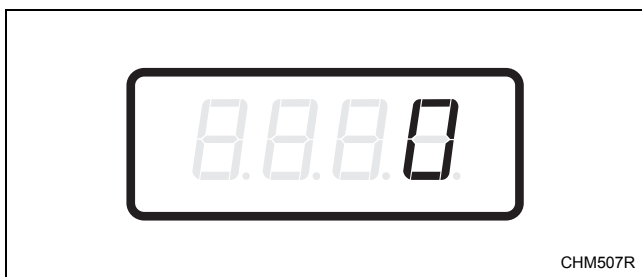

Figure 12
4. When “dEn2” appears in the display, press the START (enter) keypad. There are five digits in the Coin #2 Value. The fifth digit will appear in the display and will flash one second on and one second off. Refer to *Figure 12*.